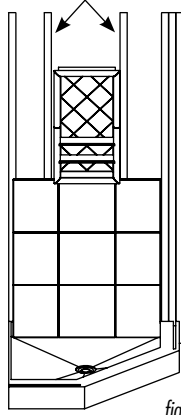

figure 14
4. Check that the studs are in the proper location and will not interfere with the shampoo shelf (fig. 14). These studs should have a minimum gap of 14 1/2".